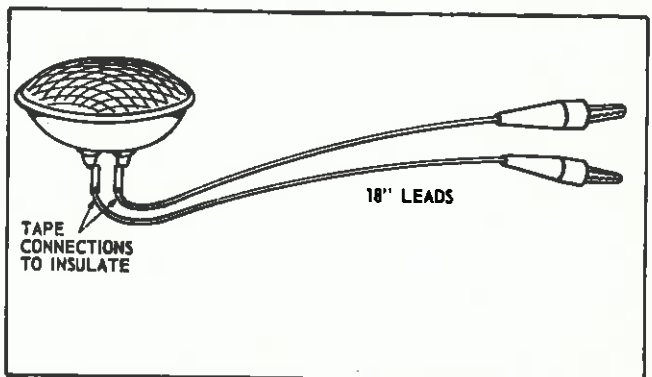

Fig. 149 — Load Lamp
G.E. No. 4001 sealed beam headlight or equivalent. Available from automotive parts supplier. Attach leads and clips as shown in Figure 149.